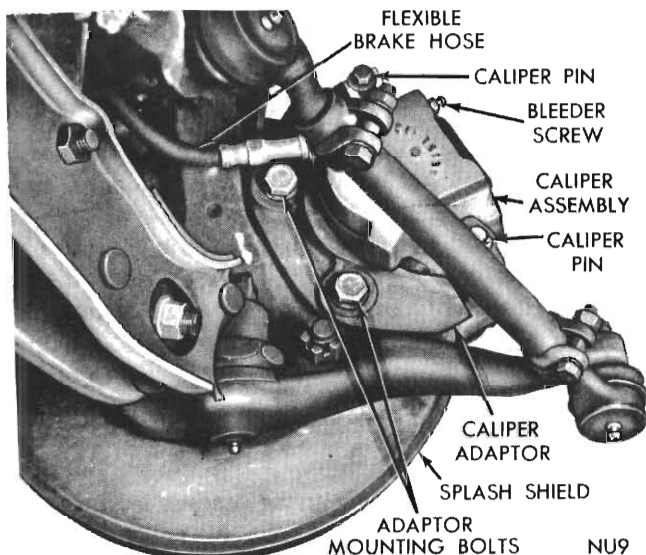
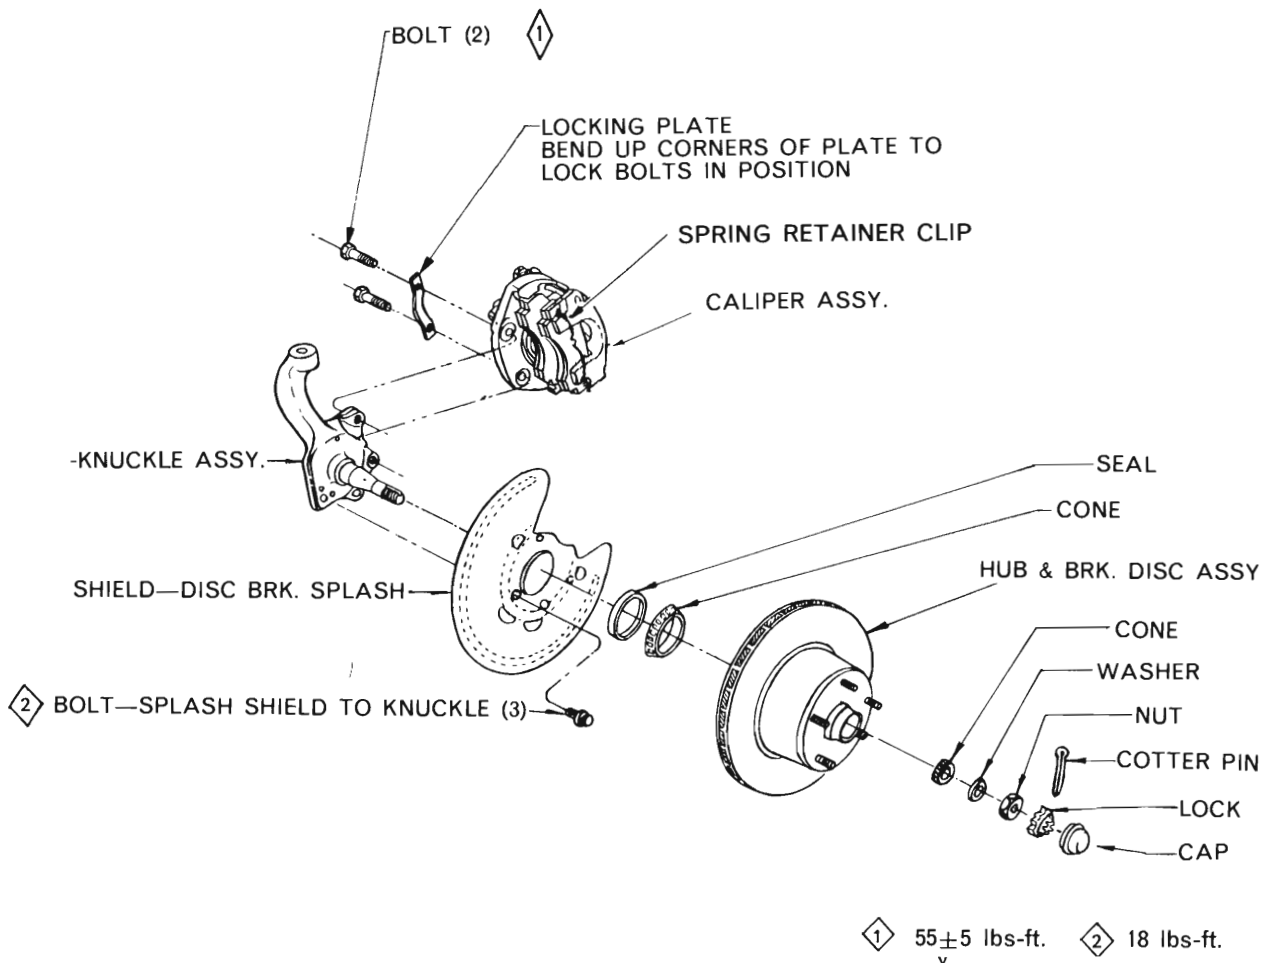
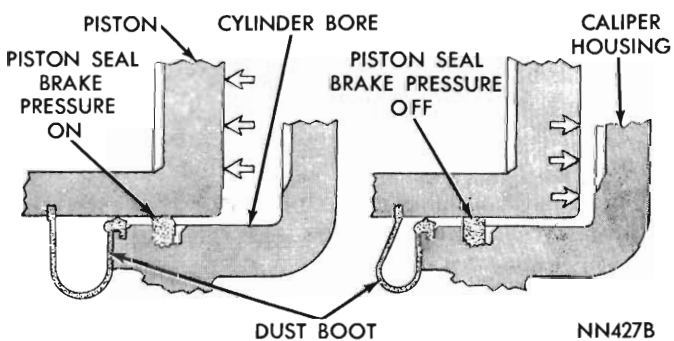

Fig. 1 - Disc Brake Caliper Mounting
Fig. 2 - Braking Component Assembly - (Disassembled view)
Fig. 3 - Piston seal function for Automatic Adjustment
The AUTOMOTIVE and GIRLING single piston, floating caliper disc brake assembly (*Fig. 2*) consists of the hub and disc assembly, the caliper, shoe and linings, splash shield and adapter.
The cast iron braking disc has cooling fins that are cast integrally between the two machined braking surfaces (*Fig. 2*). When the wheel is in motion, the rotation of the disc cooling fins supplies air circulation between the braking surfaces for efficient cooling of the disc and prolonged lining life. The braking disc is protected from road splash (inboard side) by a shield bolted to the steering knuckle and by the wheel and tyre on the outboard side of all models (*Fig. 1*) except models with the A84 and A87 options (Track pack).
**NOTE:** The groove is machined shallower towards the bottom of the cylinder bore. This arrangement creates more compression on the edge of the seal facing the fluid and also assists in retracting the piston after pressure is released. Refer *Fig. 3*. The adapter is mounted to the steering knuckle by two special bolts and lock plates (*Fig. 2*).
The boot has a wiping lip (*Fig. 3*) that prevents contamination in the bore area.